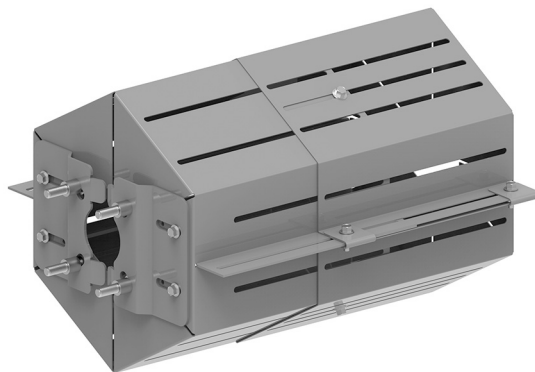
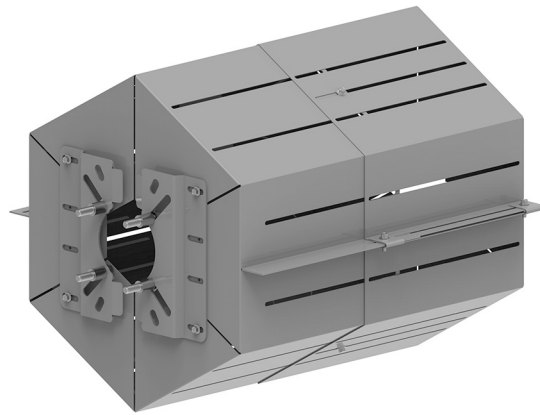

Figure 36: Fully assembled coupling guard – small bracket
Figure 37: Fully assembled coupling guard – large bracket
- b) Feed one bolt [8] through each of the angled slots on the mounting bracket [5] such that the shaft of the bolt protrudes away from the rounded tabs (as in Figure 36: Fully assembled coupling guard – small bracket on page 95 and Figure 37: Fully assembled coupling guard – large bracket on page 96).